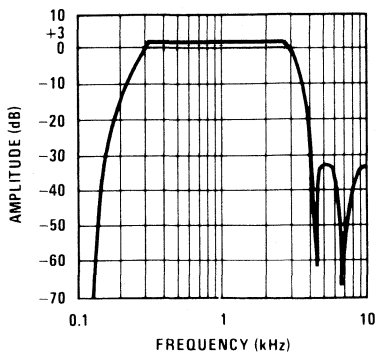
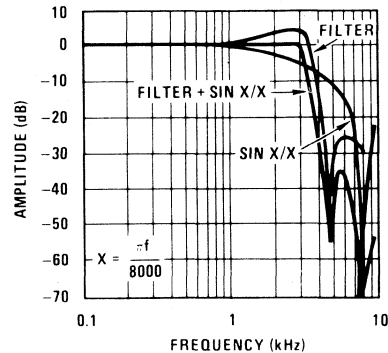
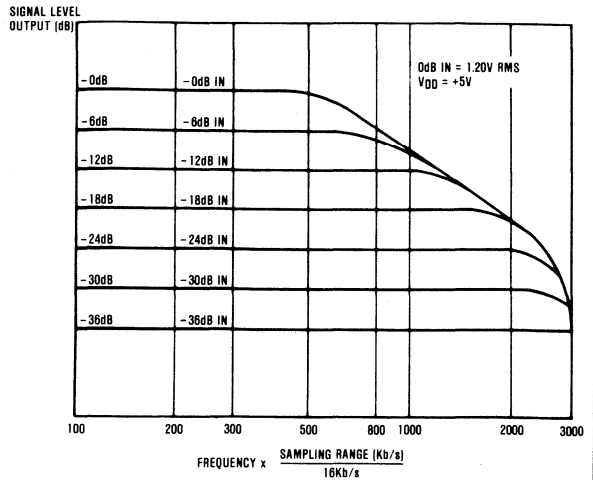
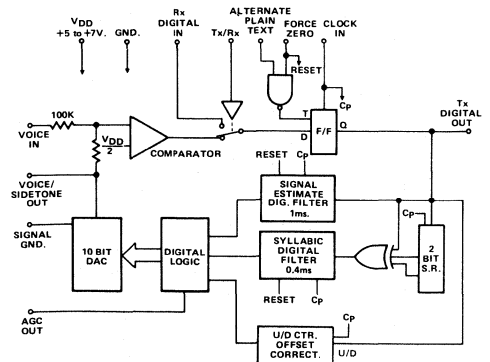

FIGURE 1A. TRANSMIT FILTER STAGE
FIGURE 1B. RECEIVE FILTER STAGE
FIGURE 2. TRANSFER FUNCTION FOR CVSD AT 16KB
Figure 3 - HC-55564 CVSD Functional Diagram
The process of converting filtered voice information into a digitized pulse train format begins with sampling the voice signal at uniform intervals. These intervals are determined by the Nyquist Sampling Theorem, which simply states that any signal may be completely re-constructed from its representative sampling if it is sampled at least twice the maximum frequency of interest. The telephone system, being a worldwide standard 8kHz sampling system, satisfies Nyquist, as all voice signals are band-limited to 4kHz. When the voice waveform is sampled, a train of short pulses is produced, each representing the amplitude of the waveform at the specific instant of sampling. This process is called Pulse Amplitude Modulation (PAM). The envelope of the PAM samples replicate the original waveform. Figures 1A thru 1D illustrate representative PAM samples for up to 24(30) individual voice channels in a μ -Law (A-Law) telephone system.
The transmit and receive filter responses are shown in Figures 1A and 1B. The transfer characteristic of the CVSD is illustrated in Figure 2. A suggested circuit configuration is shown in Figure 3.
The HC-5512 filter is configured such that it utilizes a 2.048MHz clock for the switched capacitors. A 16kHz or 32kHz sampling clock for the CVSD is easily derived as shown in Figure 3. A 32kHz sampling clock is recommended to enhance noise performance, frequency response, and dynamic range of the CVSD. For the circuit as shown the audio signal into the CVSD should be 1Vp-p over the 3.2kHz band to obtain a flat response. As can be seen from Figure 2, for lower frequency signals, higher signal levels can be used. However, an external compensation network is required to flatten the inherent SINX/X output response of the receive filter stage (see Figure 1B). R_A , R_B and C_A form a simple lead lag filter at the output of the receive filter in the HC-5512. This introduces a pole at 1kHz and a zero at 3.3kHz in order to give some degree of compensation against the filter's SINX/X characteristics.
The CVSD: A popular effective scheme for compressed delta modulation is known as CVSD (continuously variable slope deltamod) shown in Figure 2. Additional digital logic, a second integrator, and an analog multiplier are added to the simple modulator.
Delta modulated data is in a form which can be digitally filtered with fairly simple circuitry. A compatible CVSD can be made using digital integrators and multipliers driving a digital-to-analog converter. The block diagram of the Harris HC-55564 monolithic CVSD is shown in Figure 3.
The CMOS digital circuit functions of Figure 3 closely parallel the equivalent analog function in Figure 2. The filters are single pole recursive types using shift registers with feedback. A digital multiplier feeds a 10 bit R-2R DAC which reconstructs the voice waveform. The DAC output is in steps, rather than ramps.